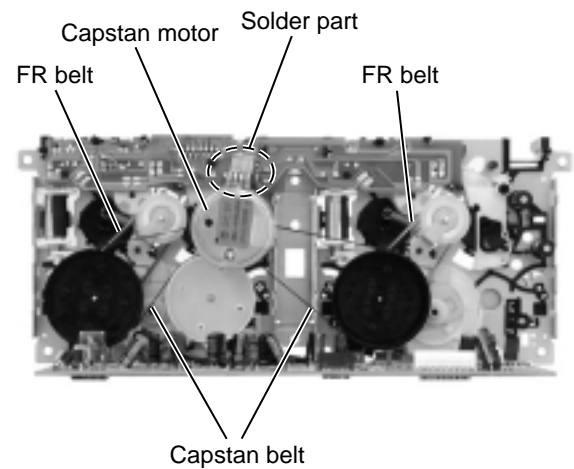

Fig.7
■ Removing the Capstan belt (See Fig.7)